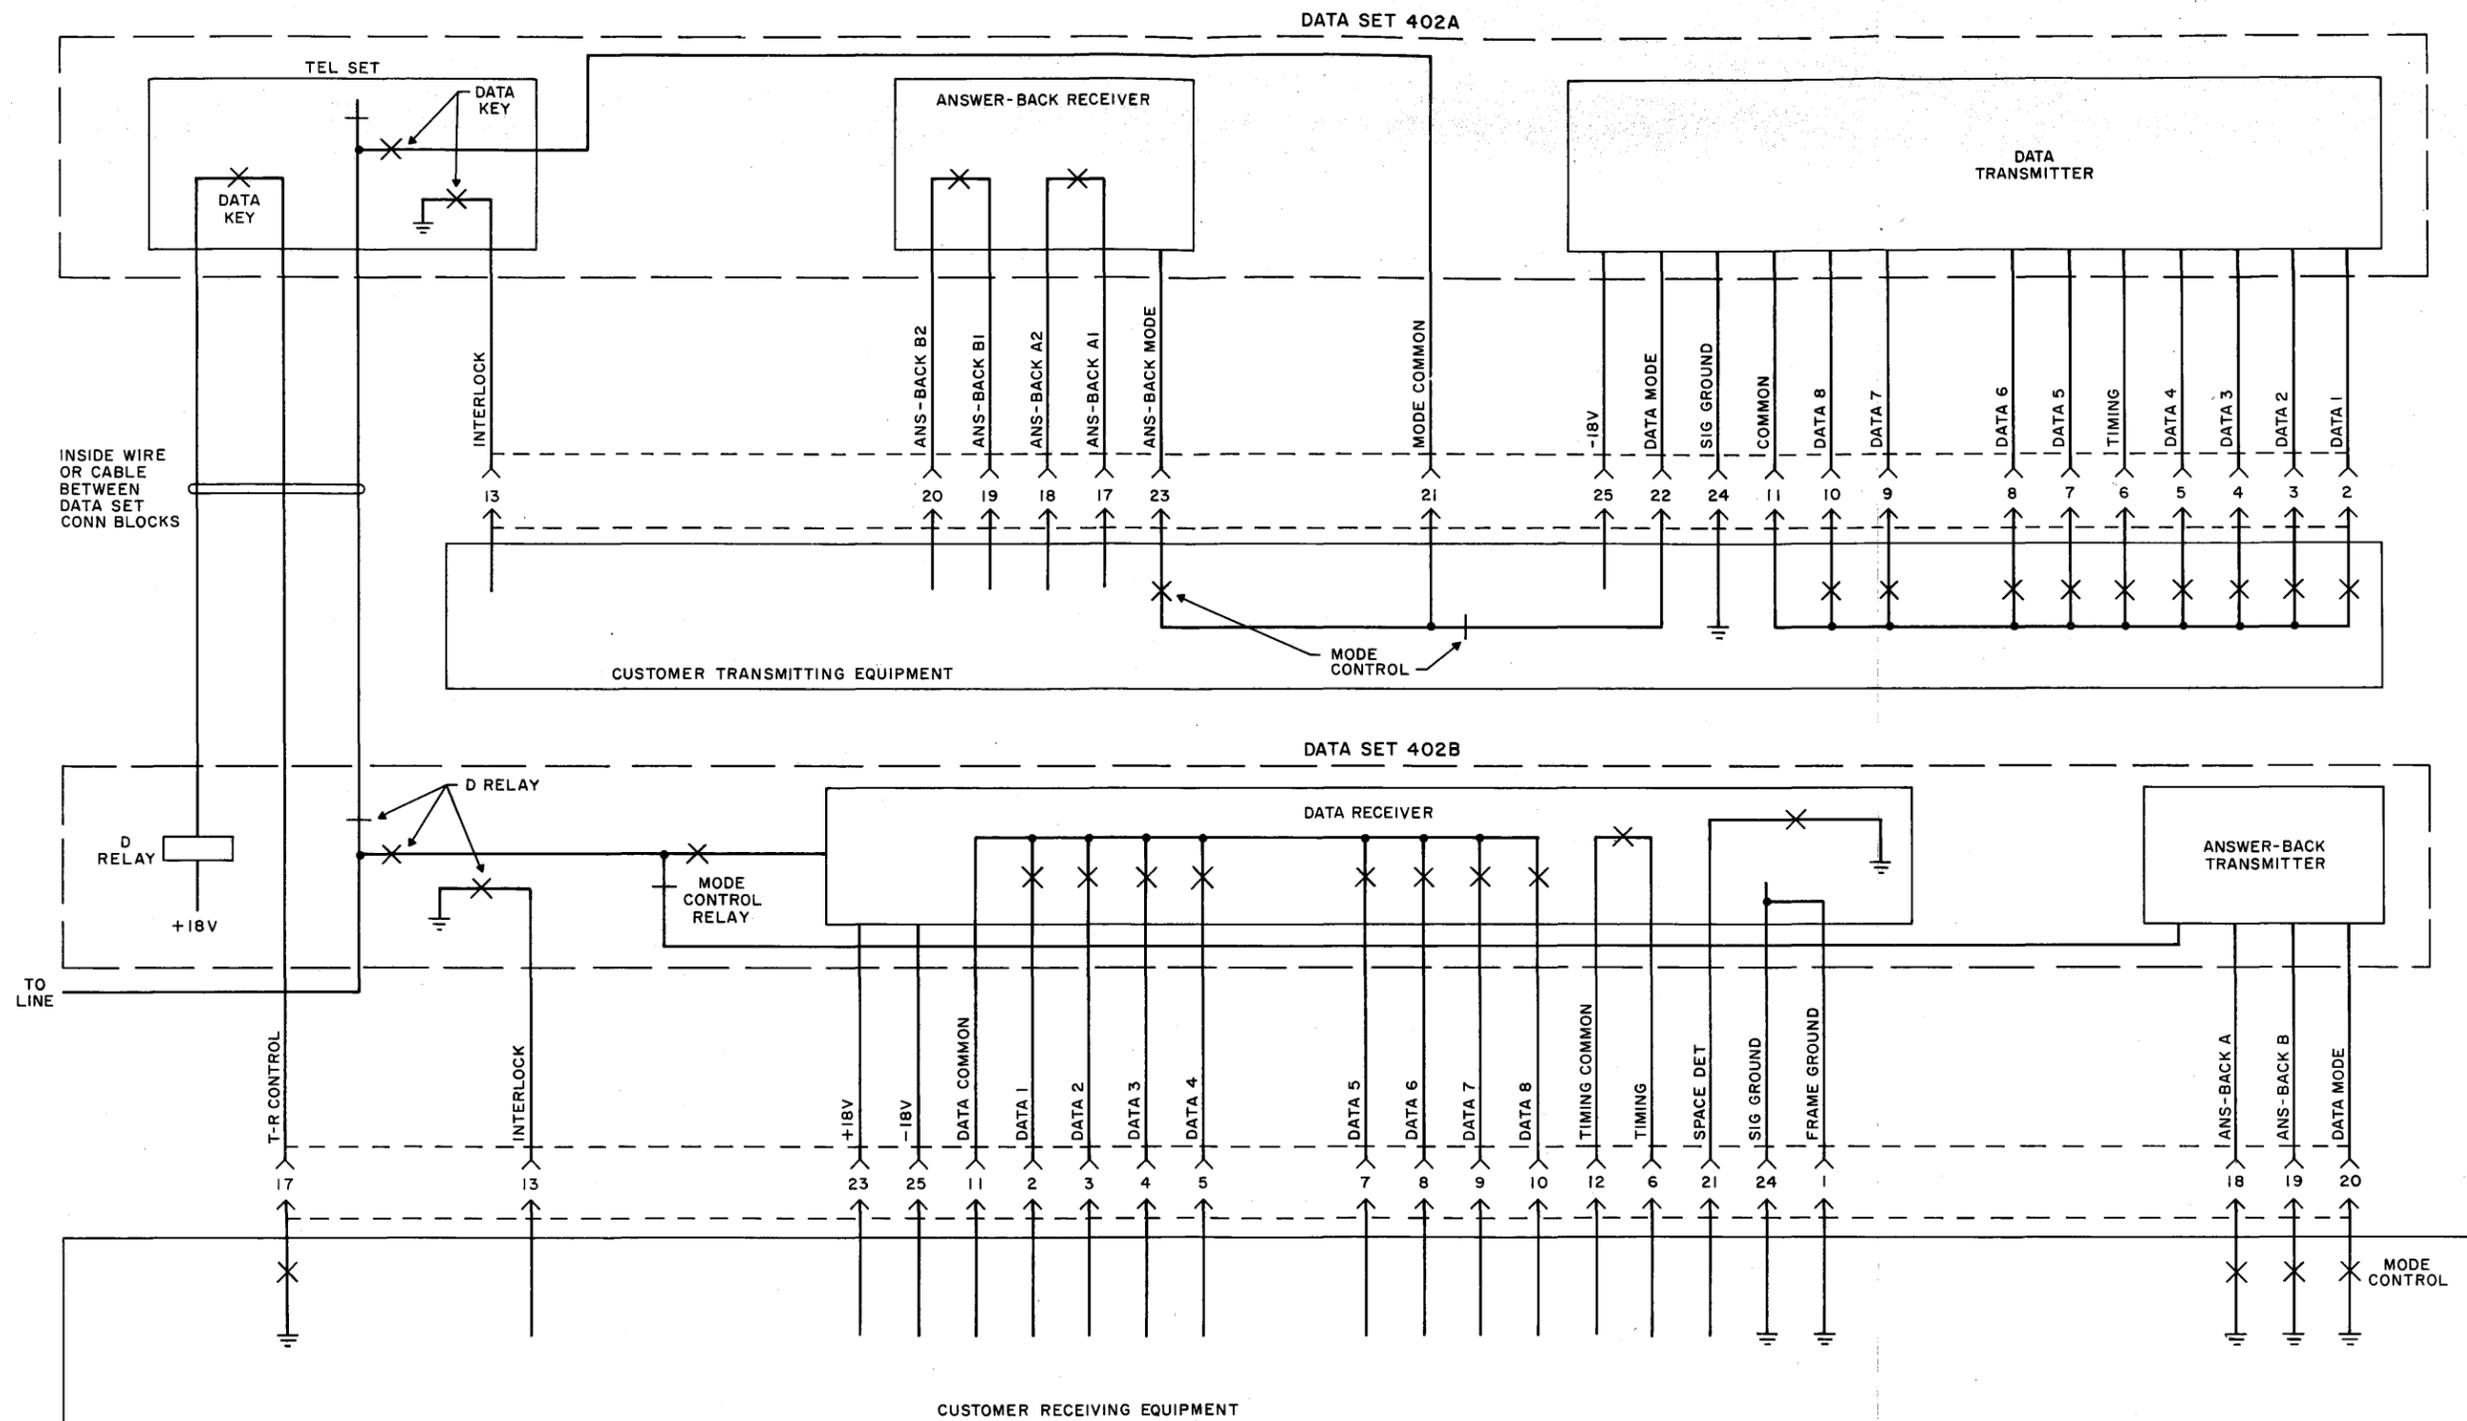

Fig. 3—Data Sets 402A and 402B Bridge on One Line, Block Diagram
4.07 Fig. 3 shows a block diagram of both the data sets 402A and 402B bridged on one line.